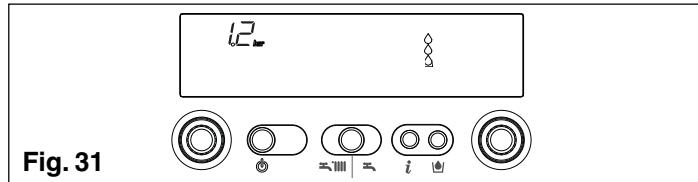

Fig. 31
**Info 2** shows circuit pressure (fig. 31)